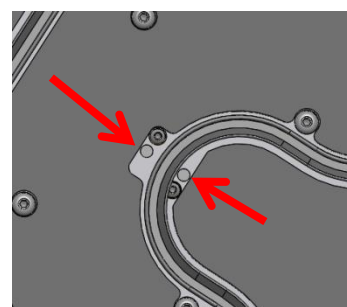

Figure: 8
- Check the air filters on the bottom of the suction cup to make sure they are clean (see figure 8).